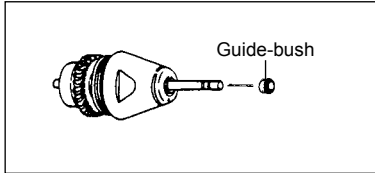

Fig. 14
- ② Set the longer one of the guides of the guide bushings on the end of the rotor shaft along the test bur (Fig.14).